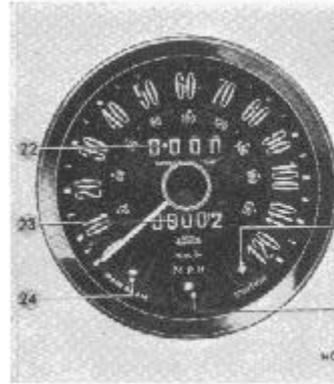

Fig. 7
- Fig. 7
Additional to indicating the road speed of the vehicle in miles and kilometres per hour, the instrument shown on Fig. 3 combines the indicators and warning devices (22 to 26, see Fig. 7).
### **Trip Odometer** (22, Fig. 7)
### **Odometer** (23, Fig. 7)
### **Main Beam Warning Light** (24, Fig. 7)
### **Oil Pressure Warning Light** (25, Fig. 7)
### **Ignition Warning Light** (26, Fig. 7)